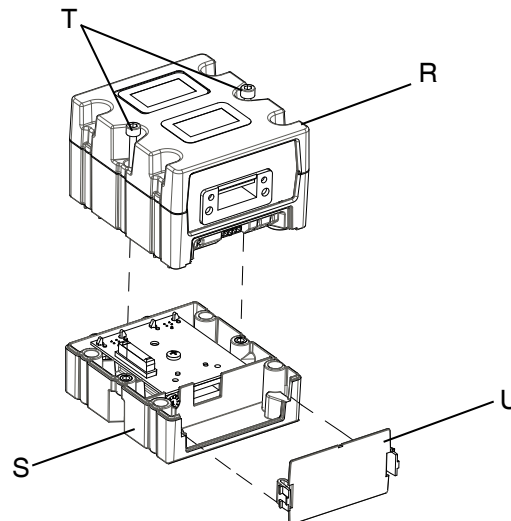

Fig. 22: Disassembling the CGM
5. Remove the access cover from the CGM (U). Loosen the two screws (T) and remove the CGM (R) from the base (S) as shown in **Figure 22**.